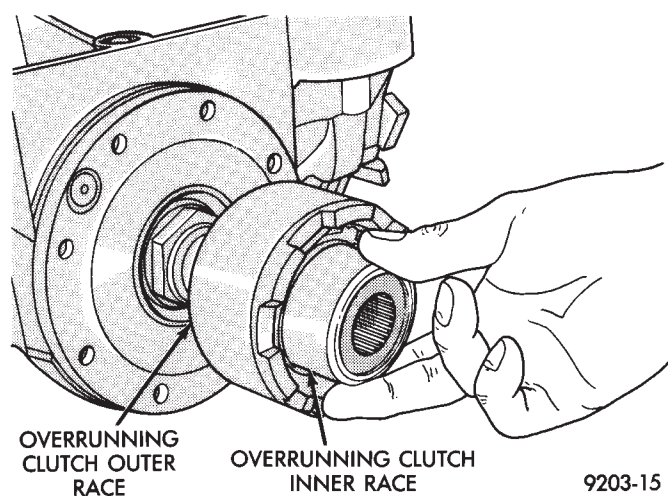
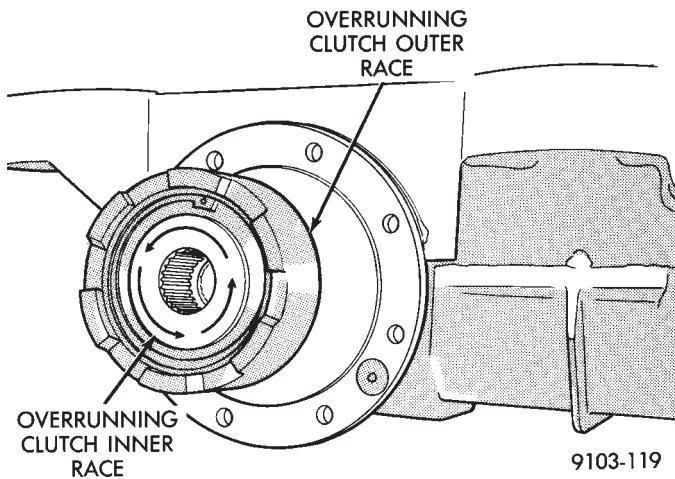
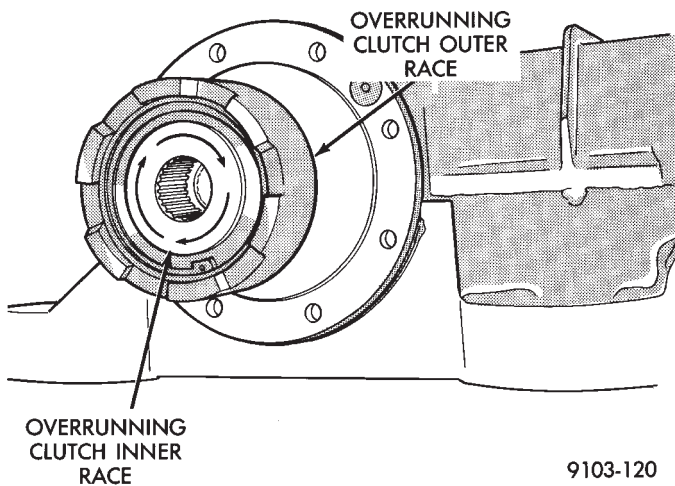

Fig. 16 Temporarily Install Inner Race
Fig. 17 Turn Inner Race Counterclockwise
Fig. 18 Turn Inner Race Clockwise
(3) To check for proper installation of the overrunning clutch, temporarily install the inner race into the overrunning clutch. The tapered end must go in first (Fig. 16). The inner race should spin when turned counterclockwise (Fig. 17) and grab when turned clockwise (Fig. 18).